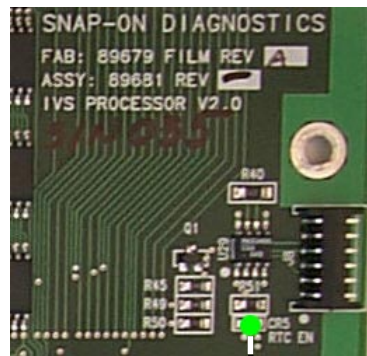

Figure 3-58
- At end of POST verify all status lights go out. The system is now waiting for software down load from Pro32. (Figure 3-58)